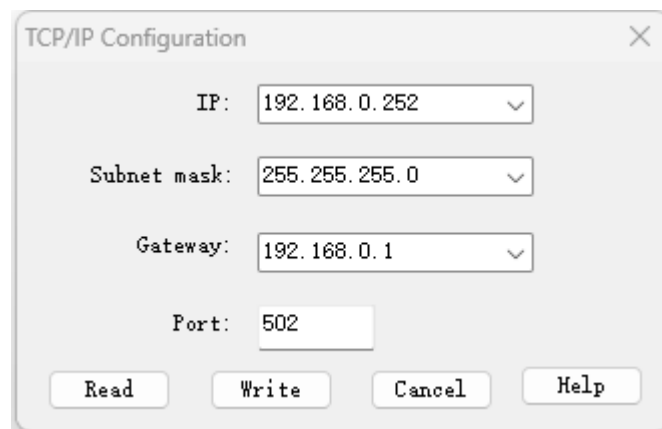

Figure 4
3、 If you need to modify the parameters of this device: left-click to select the device serial number you want to modify in the above picture. Right-click to select modify the device parameters. The window will pop up as shown below (figure 4), and you can modify the Ethernet parameters of this device.